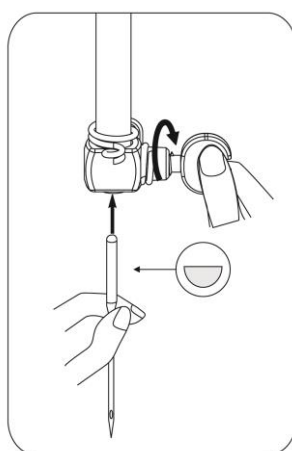

Fig.2
2. Insert the new needle into the clamp with the flat side toward the correct direction (to the back). Be sure to push the needle completely into the clamp before tightening the needle clamp screw. Tighten the needle clamp screw. (Fig.2)